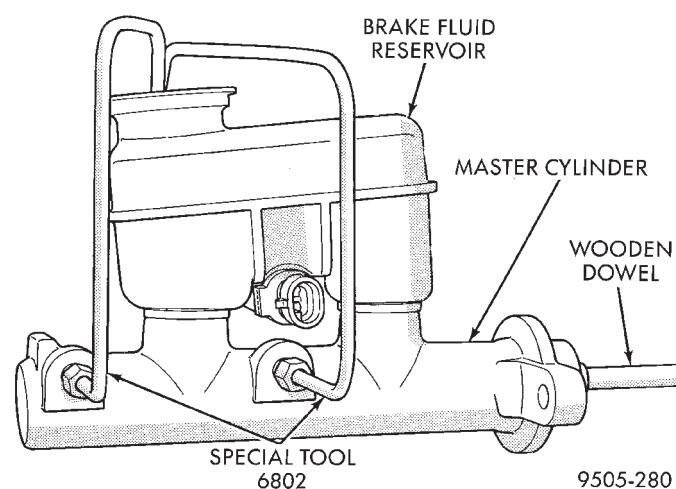

**Fig. 87 Bleeding Master Cylinder**
(2) Fill brake fluid reservoir with brake fluid conforming to DOT 3 specifications such as Mopar or an Equivalent.
(3) Insert an appropriate size wooden dowel in the end of the master cylinder piston (Fig. 87). Using the dowel, slowly depress the piston to the full extent of its travel and then allow the piston to return to its released position. Continue to repeat this step until bubbles no longer appear in the brake fluid. After no more air bubbles are expelled from the bleed tubes repeat the above procedure several more times to ensure all air is bled from master cylinder.